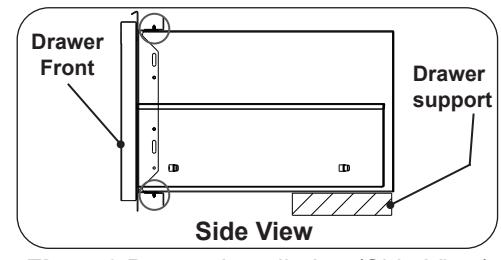

Fig. 4-6 Drawer Installation (Side View)
1. In order to properly support the weight of your drawer, it is necessary to provide a secure, level surface in the rear of the unit (see Fig 4-6). This may be accomplished by using bricks, 2 X 4's, etc. Be sure that the height of this rear support is  $1/8$ " higher than that of the front opening support, so that your drawer sits level.